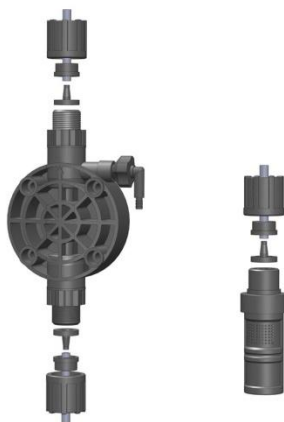

图 7 Fig.7
- 计量泵带有2米吸液管、2米出液管、底阀过滤器和喷射阀。吸液管为透明软管，一端接底阀过滤器，另一端接计量泵的进口阀。出液管为半透明白色软管，一端接计量泵出口阀，一端接喷射阀，在把出液管连接到出口阀之前，可向出口阀内灌入少量水，这样可以减少计量泵的排气时间。（如图7）
- The metering pump has 2 meters of pipette and 2 meters of outlet pipe, bottom valve filter and injection valve. The pipette is transparent hose. One end of it is connected to the bottom valve filter and the other end is connected to the inlet valve of the metering pump. The outlet pipe is transparent white hose. One end of it is connected to the outlet valve and the other end of it is connected to the injection valve. Before the outlet pipe is connected to the outlet valve, a small volume of water can be injected into the outlet valve in order to reduce the exhaust time of the metering pump. (as shown in Fig.7)